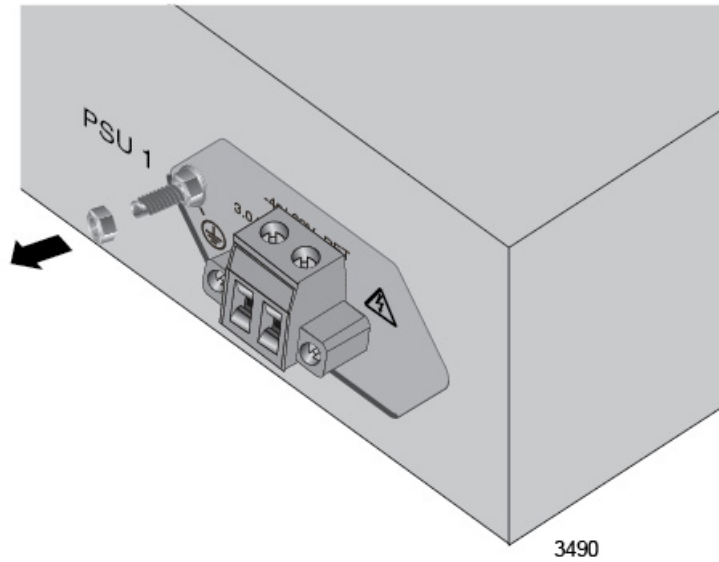

Figure 36. Removing the Nut from the Grounding Post
3. Use a 7mm wrench to remove the top nut from the grounding post on the power supply. Refer to Figure 36 on page 83.